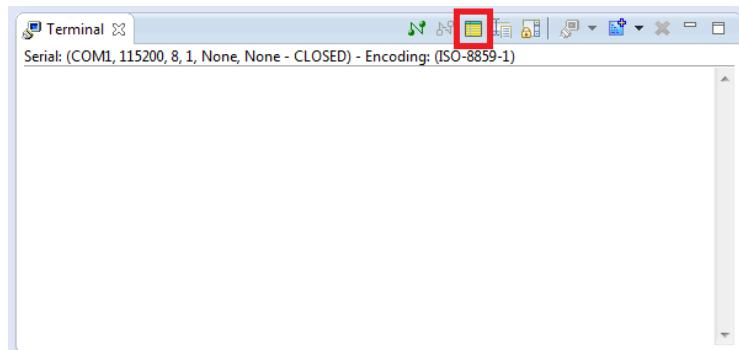

Figure 8-43. ARM DS-5 Serial Terminal
8. We will use the built-in serial terminal available in *ARM DS-5*. Go to “Window > Show View > Other... > Terminal > Terminal” to open *ARM DS-5*’s the built-in serial terminal. You should see the terminal shown in Figure 8-43.